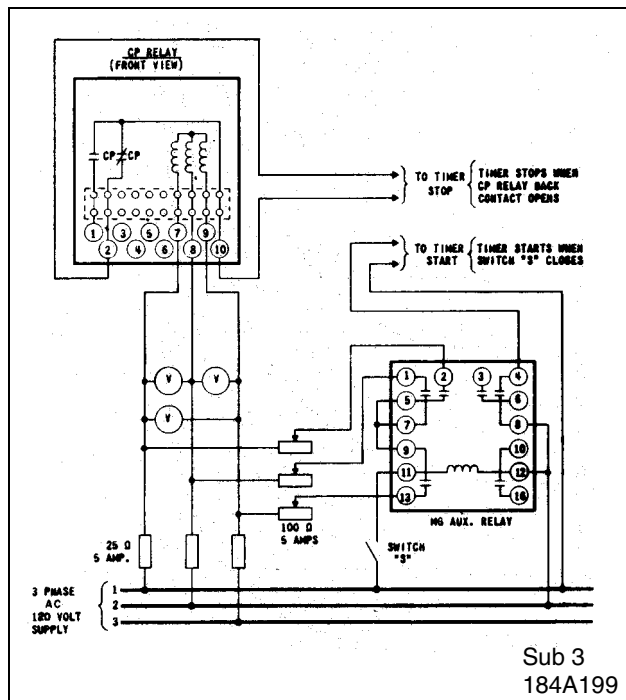

Fig. 8. Diagram of Test Connection for Checking the Undervoltage Time Curves of the Type CP Relay.
3. **Time Curve** - The time curve can be checked by the use of the circuits of Figs. 8 and 9.
- 3. Time Curve Calibration** - Install the permanent magnet and connect the relay as per the circuit of Fig. 8.